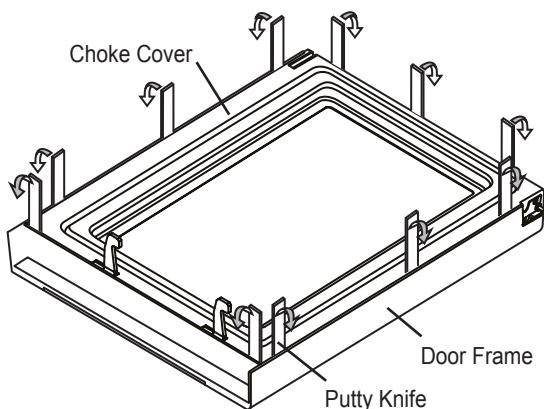

Figure C-7. Door Disassembly
3. Insert an putty knife (thickness of about 0.5mm) into the gap between the choke cover and door frame as shown in Figure C-7 to free engaging parts.
4. Pry the chock cover be inserting a putty knife as shown in Figure C-7.